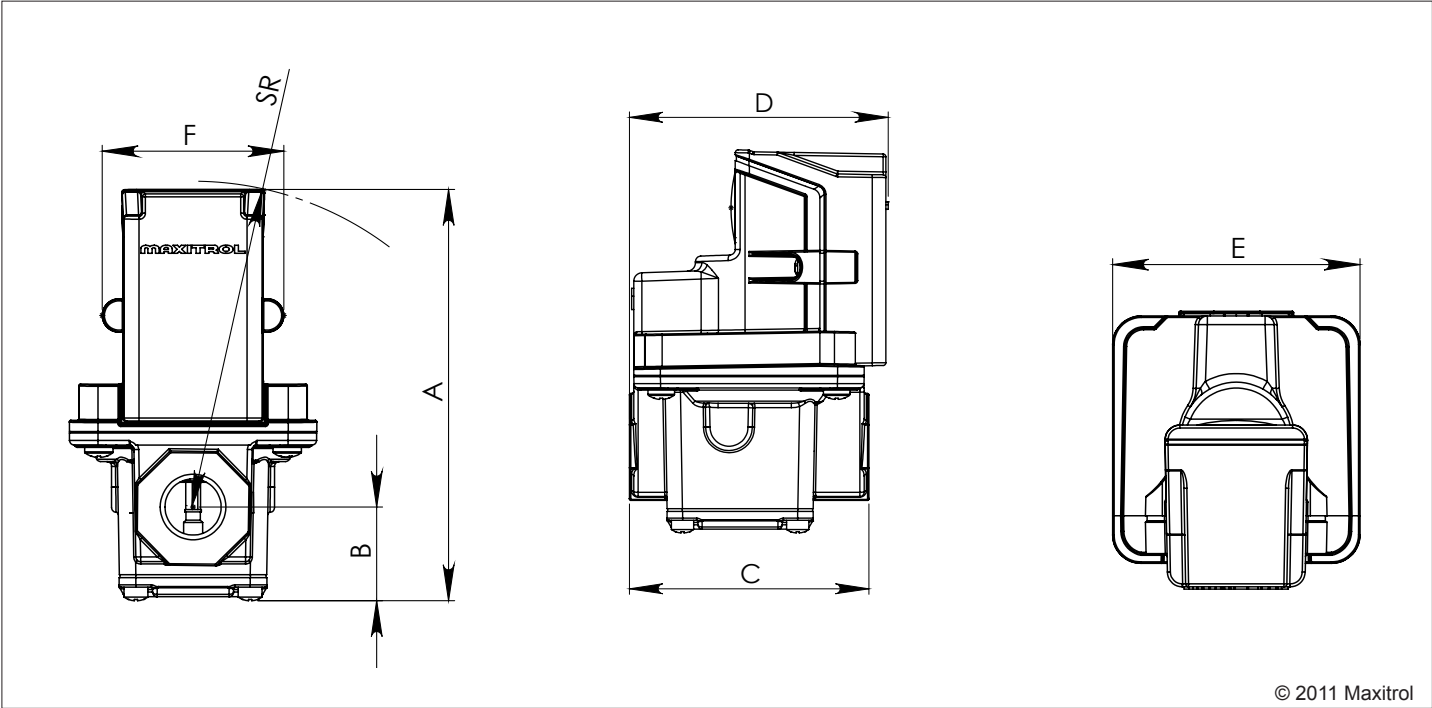

Figure 3: EXA STAR Modulating Valve Series Dimensions
**NOTE:** Dimensions are to be used only as an aid in designing clearance for the valve. Actual production dimensions may vary somewhat from those shown (see Figure 3 and Table 4).